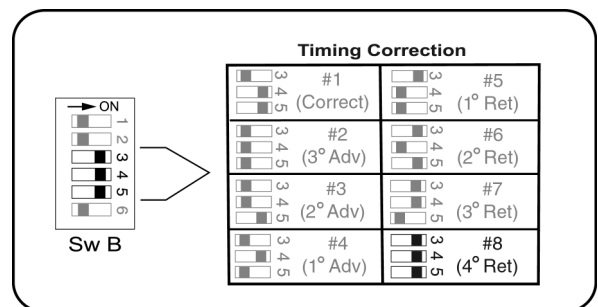

Figure 1x
1. Set the timing correction switches to the most retarded timing calibration, as shown in Figure 1x.